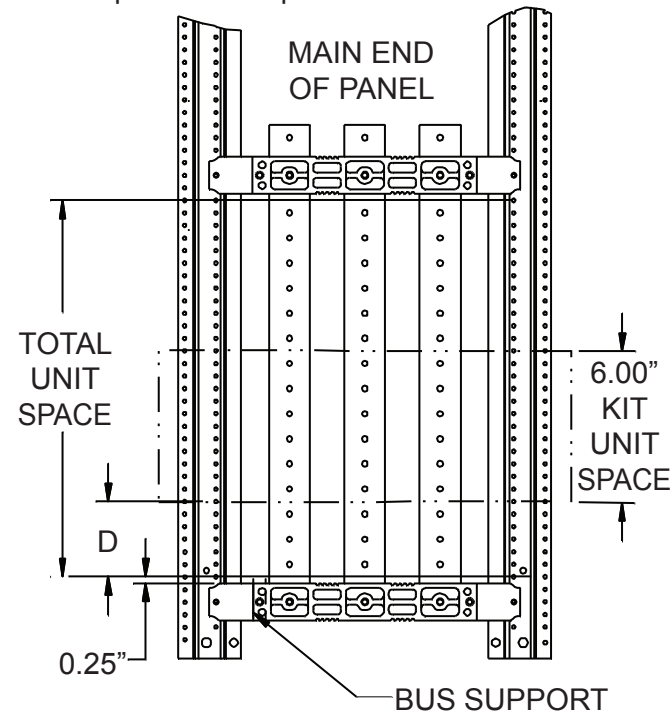

Figure 1
3. Refer to Figure 1: This kit requires 6" of unit space. Determine the location where the kit is to be installed. The kit locating dimension **D** in Figure 1 must be a multiple of 3" (0", 3", 6", etc.). This measurement can be taken directly from a neutral barrier if present, or from a bus support in panels without a neutral. Note that 0.25" must be added to dimension D when taking measurements from the bus support (0.25", 3.25", 6.25", etc.).